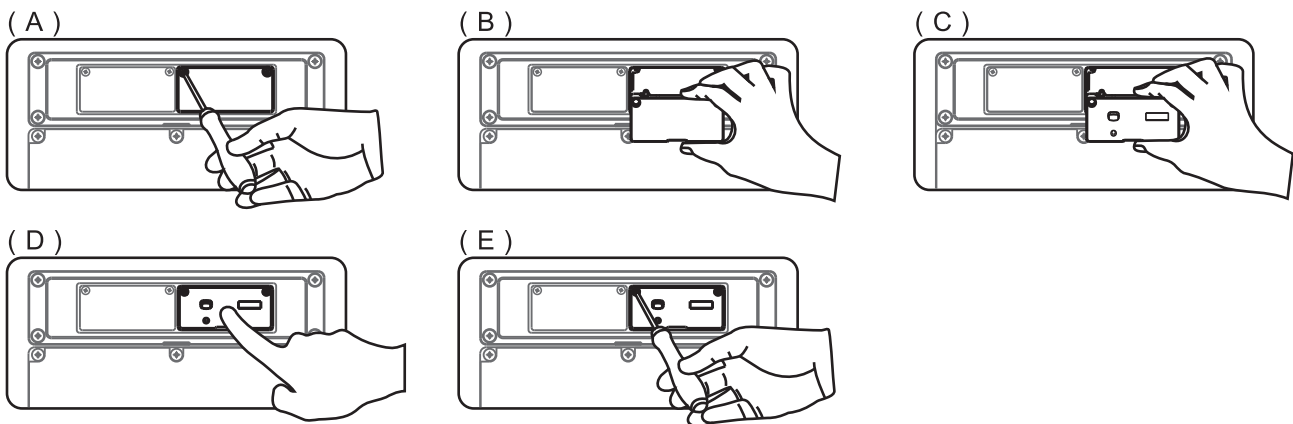

Fig. 19
3. Installation or detachment. Fig. 19
- (A) Remove the screws on the module frame panel.
- (B) Remove the panel with a flat-head screwdriver.
- (C) Insert the wireless interlinking transmitter module into the slot.
- (D) Push firmly to make sure the module is tightly fitted into the slot.
- (E) Tighten the screws.